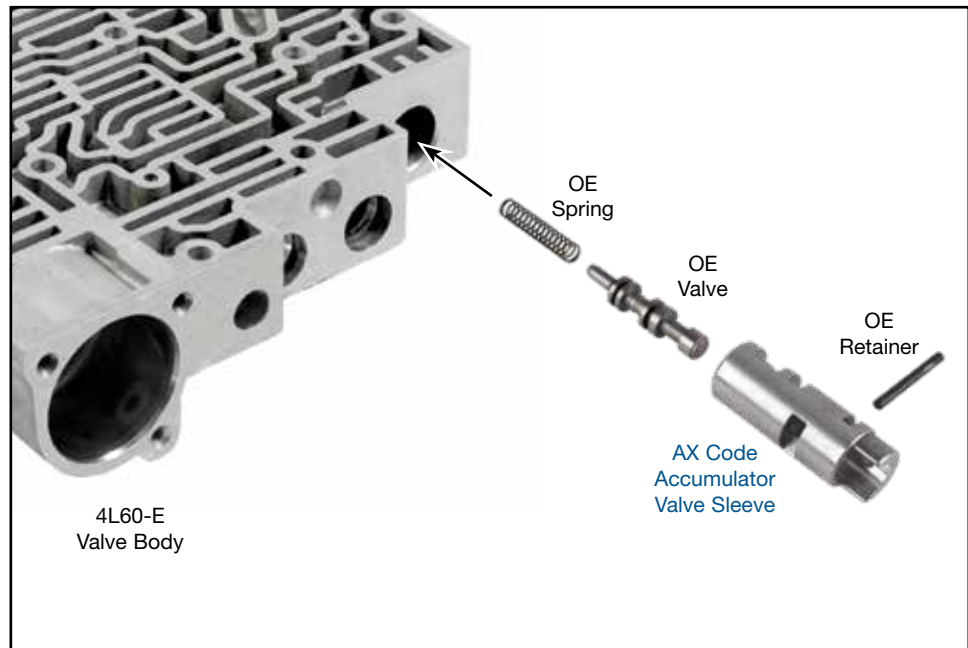

Figure 1
**NOTE:** "AX" code sleeves deliver lighter shifts than OE "BX", "CX" and "DX" designs (Figures 1 & 2).